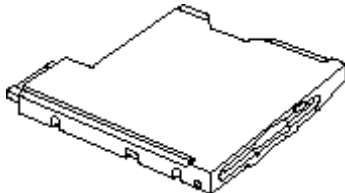

Figure 1-4 Modular Floppy Disk Drive
- **Floppy disk drive (located in the accessories box).** (Figure 1-4.)